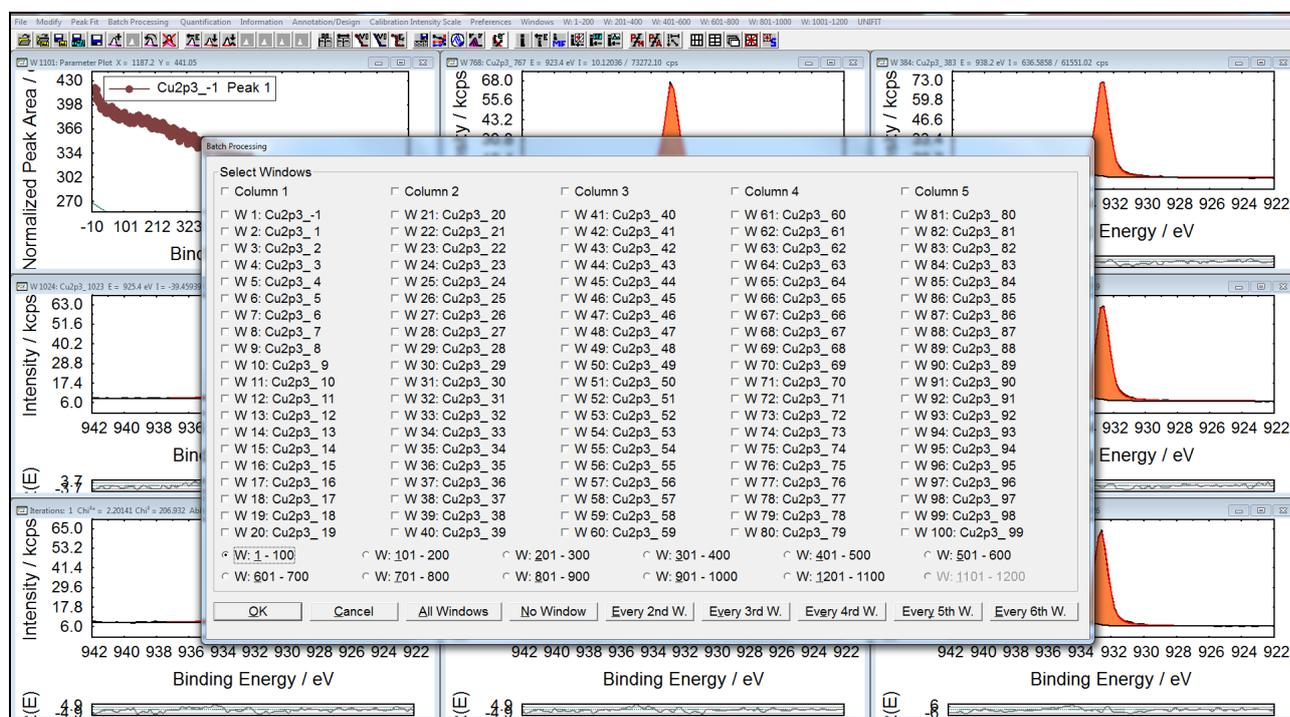

Fig. 3. Dialog for selecting the standard windows (3D plots, batch processing ...)
- v) The standard-spectra selection dialog as well as the direct-activation function of standard windows (e.g. necessary for the 3D plots, batch processing, and concentration) was adjusted on a larger number of spectra standard windows (see Fig. 3).